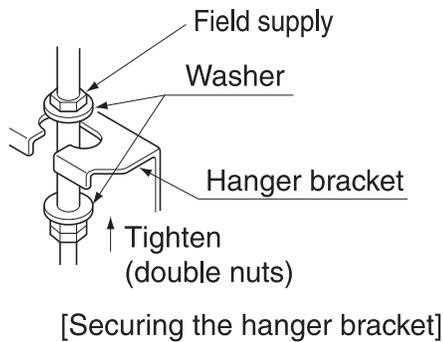

Fig. 10
- Attach the hanger bracket to the suspension bolt. Be sure to fix it securely by using a nut and washer from the upper and lower sides of the hanger bracket. (Refer to Fig.10)